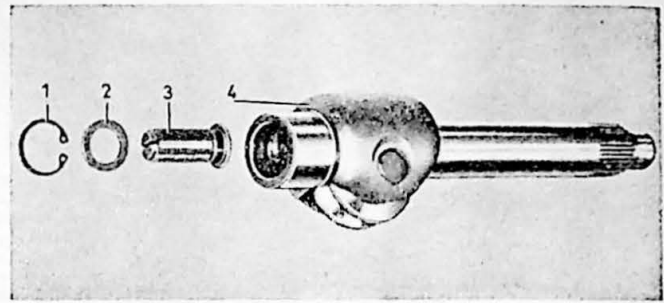

Fig. 6-26. Pitman arm shaft
5. Fit the adjusting screw, washer and locking ring on the pitman arm shaft, see Fig. 6-26. The axial clearance of the adjusting screw should be as